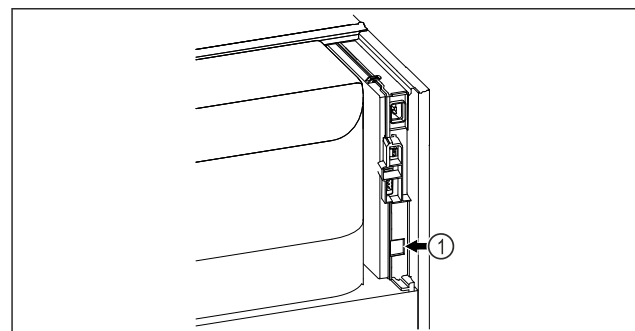

Fig. 138
- SmartModule *Fig. 138 (1)* is in use.